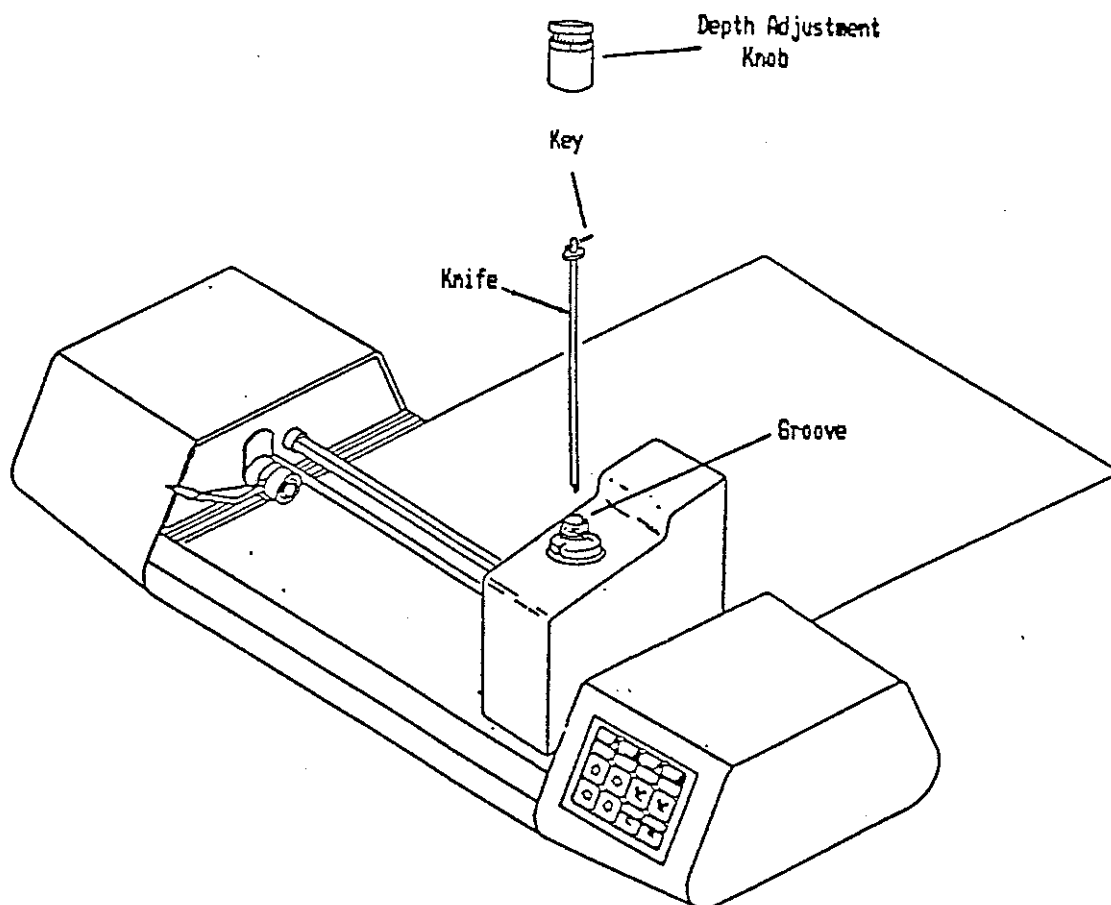

FIGURE 1-6. INSTALLING A KNIFE BLADE
1. Remove the depth adjustment knob from the blade assembly unit by turning it counterclockwise (see Figure 1-6).
2. Place the knife into the hollow shaft of the blade assembly unit as shown in Figure 1-6. Align the key on the shaft of the knife with the groove on the blade assembly unit and then gently press down on the knife until it seats against the bottom of the blade assembly unit.